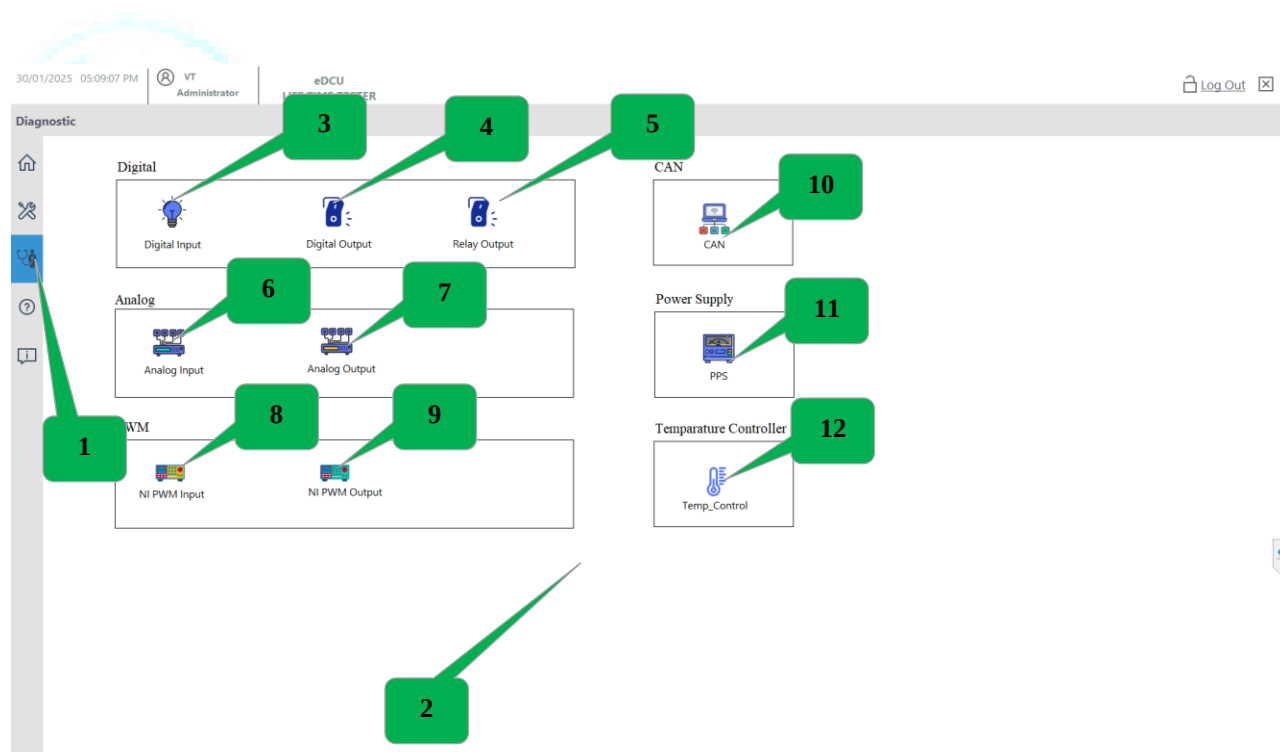

Figure 47: Diagnostic Test Screen
Diagnostic screens are used for identifying and troubleshooting issues. Refer the Figure 47.
- 1) Click the Diagnostic Screen Button and Figure 47: Diagnostic Test Screen.
- 1) Click the Diagnostic Screen Button and Figure 47: Diagnostic Test Screen